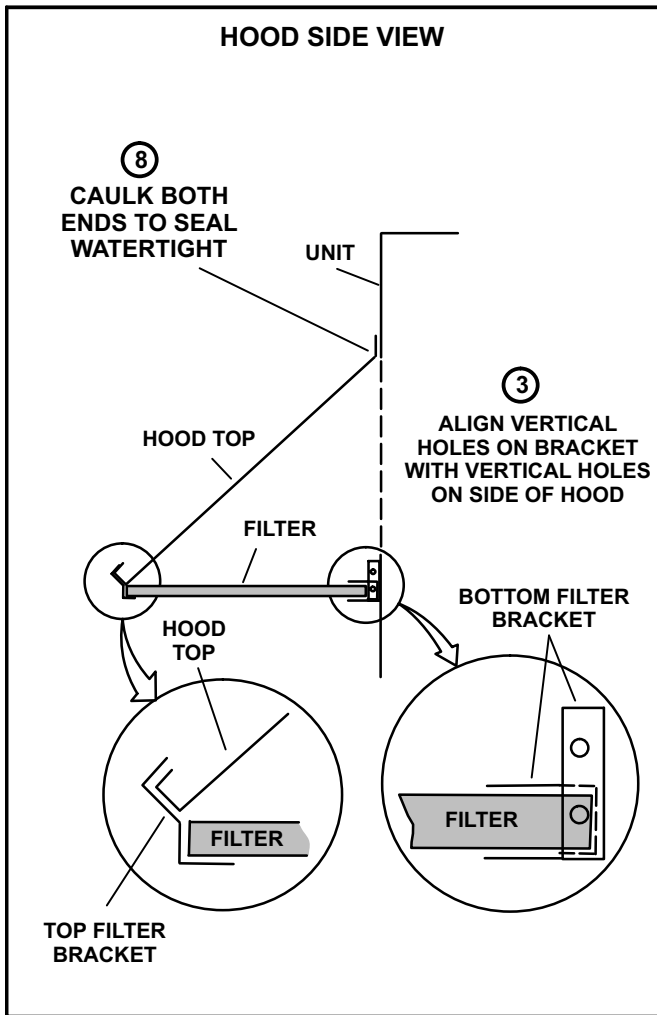

FIGURE 8
- 3- Install the bottom filter bracket between the left and right hood sides. Secure in place with #10 screws. See figure 8.
- 7- Slide the metal mesh filter into the bottom filter bracket. Install the top filter bracket and secure with the #10 thread forming screw. See figure 8 and 10.
- 8- Caulk (field provided) both top ends of the hood assembly to provide a water tight seal. See Figure 8.